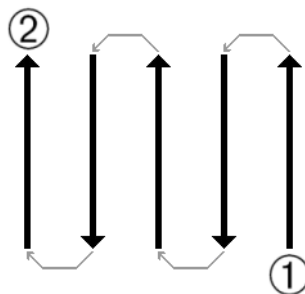

Figure 25: Given manner
Figure 25 shows all different ways of scanning in a scheme. The measurement starts at your starting point ① and ends at point ②.